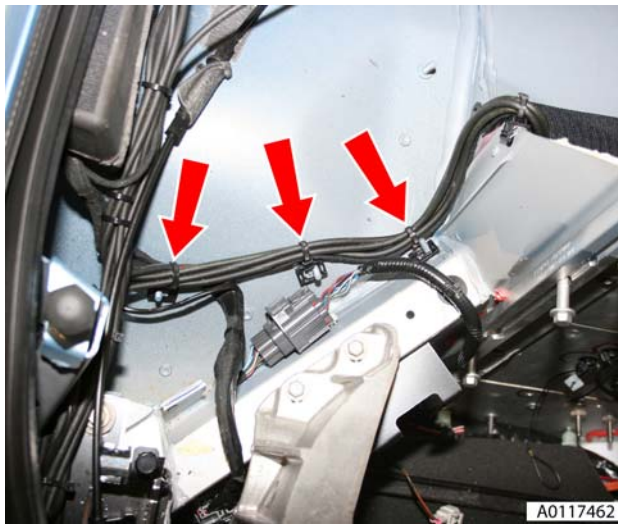

Figure 5
11. Remove harness/pipe retaining clips (x3) LH side (see Figure 5).